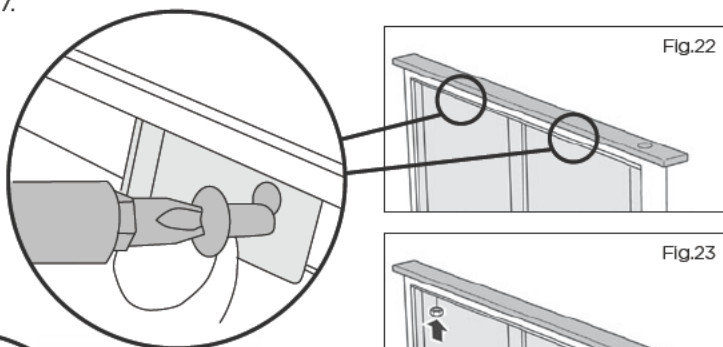

Fig.22
- Remove the labels, screw and brackets as shown in Fig.22. These brackets are used to hold the grease filter microswitches in place during transportation. They are located at the top of the downdraft unit in the centre behind each grease filter.